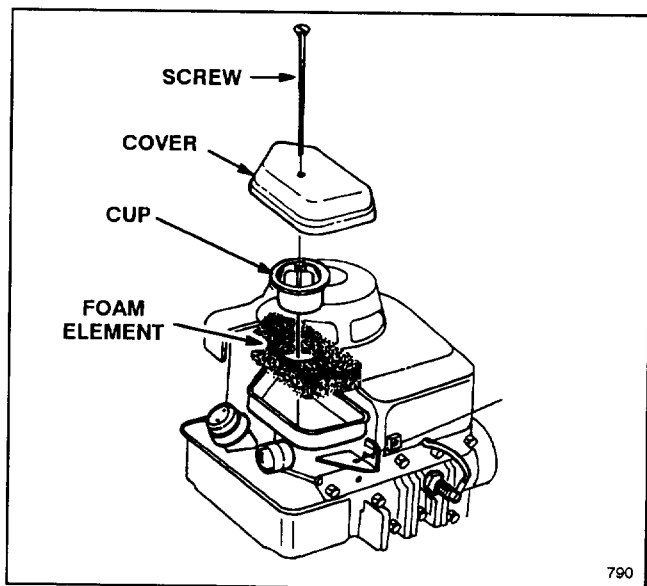

Figure 15
2. Remove screw from top of air cleaner. Lift off cover and clean cover thoroughly (Fig. 15).
3. Remove air cleaner cup from top of foam element (Fig. 15).
4. If foam element is dirty, remove it from air cleaner body (Fig. 15). Clean thoroughly.